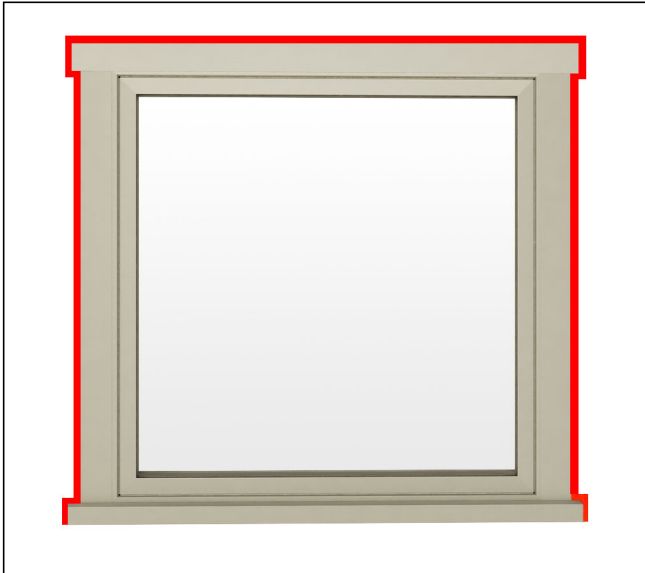

Figure 49
7. Seal casing with clear grade NS class 25 sealant at each jamb to siding or weather resistant barrier. (If required, backer rod may be used.) See *figure 49*.